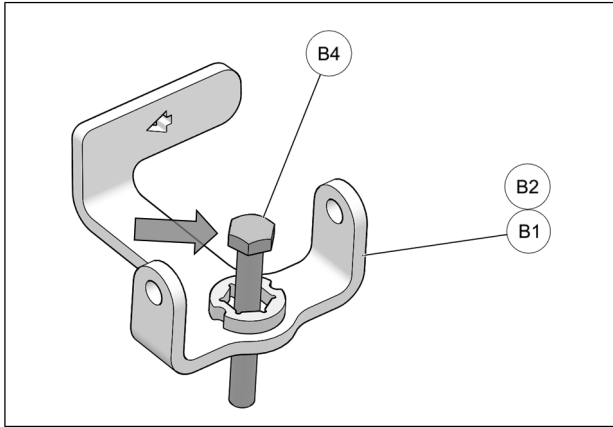

Fig. 4
4. Insert a M10x80 mm bolt (**B4**), provided in the parts kit, in each bracket (**B1-B2**) as shown in Fig. 4